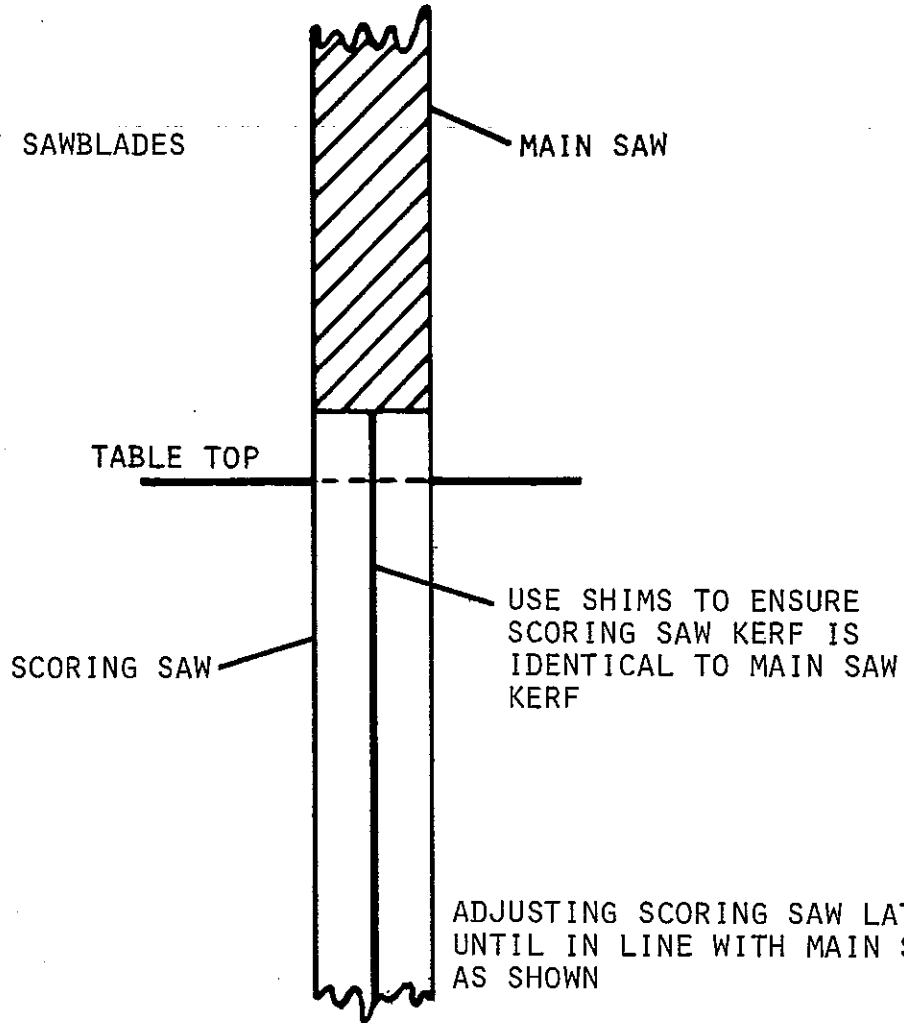

FIG. 31.
NOTE: See FIG.31, for use of shims as fitted between scoring saw blades for correct kerf alignment.
4. Proceed to take trial cuts to establish the accuracy of the alignment of the scoring blade with main blade. The correct alignment is shown in FIG.31.